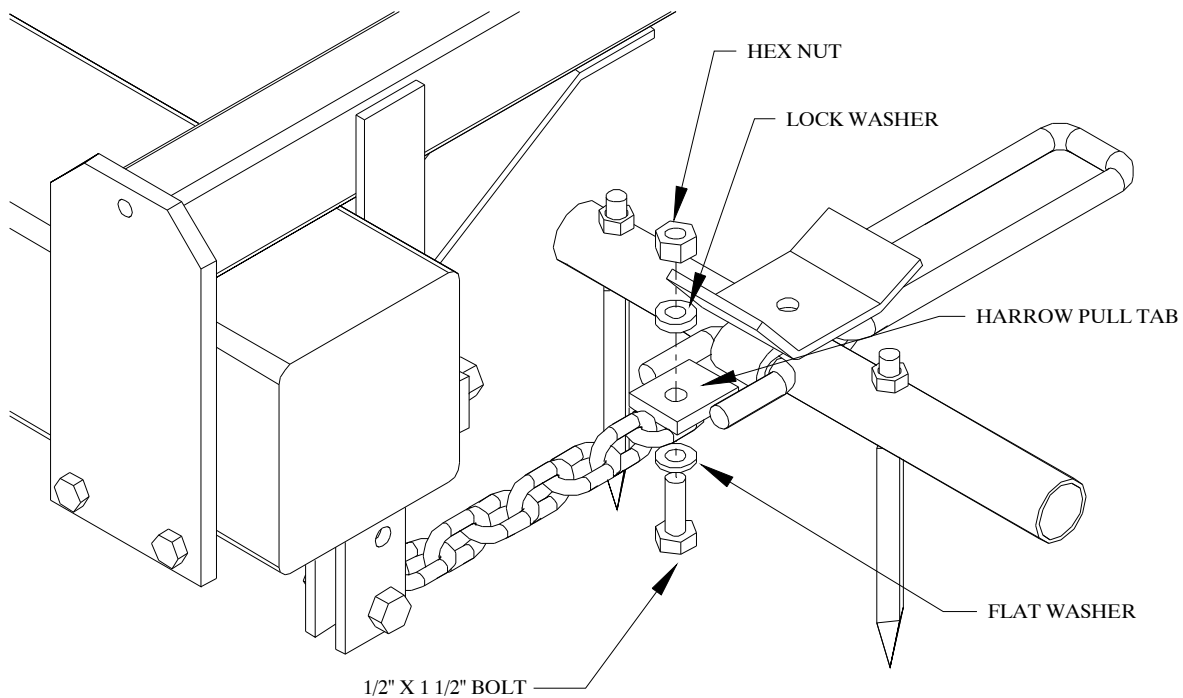

Figure 16
1. Bolt the pull chains to the front tabs on the harrow sections. Refer to Figure 16. Use $\frac{1}{2}$ " x $1\frac{1}{2}$ " bolts, flat washers, lock washers, and hex nuts. The chains should be bolted to the bottom of the pull tabs. Make sure that the chains are not twisted.
1. Bolt the pull chains to the front tabs on the front harrow sections. Refer to Figure 16. Use 1/2" x 1 1/2" bolts, flat washers, lock washers, and hex nuts. The chains should be bolted to the bottom of the pull tabs.
1. Bolt the pull chains to the front tabs on the harrow sections. Refer to Figures 16 and 19. Use ½” x 1 ½” bolts, flat washers, lock washers, and hex nuts. The chains should be bolted to the bottom of the pull tabs.